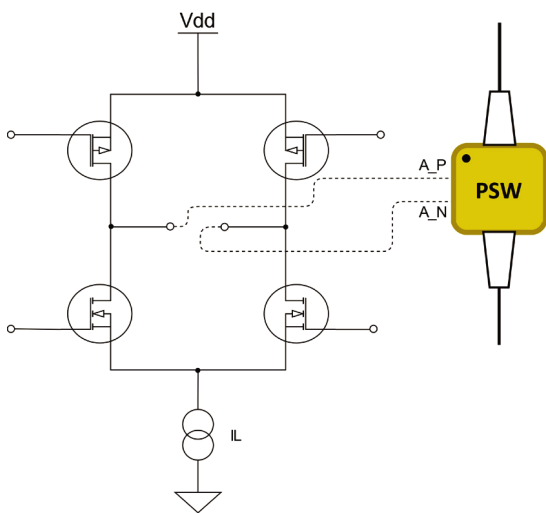

Figure 11 Diagram of a MOSFET H-bridge being used to drive one polarization switch
A driver circuit can be implemented using different approaches, such as an H-bridge, BTL amplifier, electronic analog switch, etc. The key is to provide a suitable driving current. In general, we recommend designing the driver with a MOSFET H-bridge. Figure 11 shows a typical H bridge used to drive a switch.
A\_P and A\_N are the drive pins for the switch. The current limit (IL) in Figure 11 could be implemented by using either a constant current source (CCS) or a current limiting (iLIM) solution such as a current chop in a motor driving chip. The purpose of IL is to set a maximum limit on the amount of current passing through the circuit so as to protect it from overdriving (and consequent overheating).